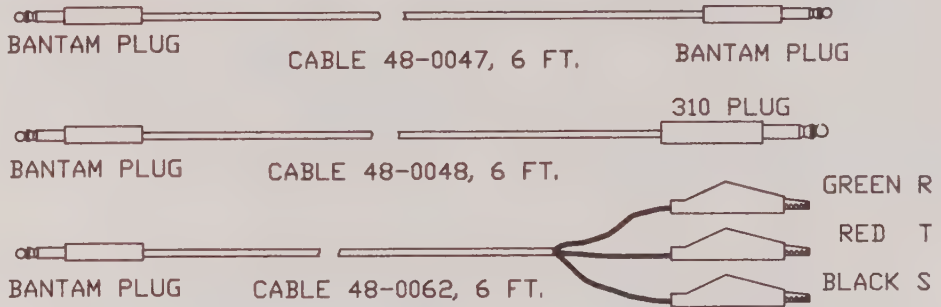

Figure 5-1. *AM5XT/eXT Connection Cables*
Line Connection Cables. There are three (3) Bantam cables illustrated in Fig. 5-1 that are used for line connections. Use these cables as required to connect the AM5XT/eXT to 2-wire or 4-wire lines.